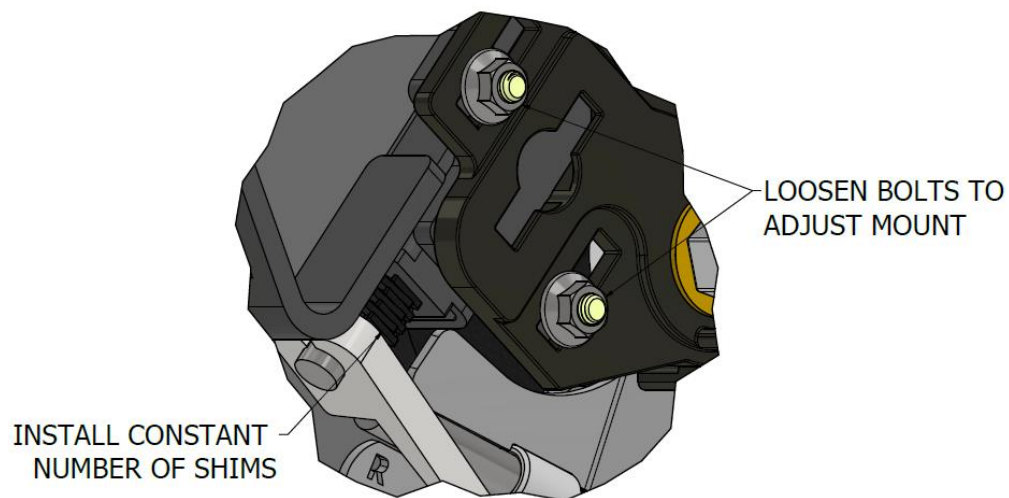

Figure 9: Adjust the scraper
- 6) To complete the adjustment of each scraper, loosen the bolts holding the mounting bracket to the row unit shown in Figure 9. Slide the mount up or down so that the bottom point on the scraper is  $\frac{1}{8}$ " from the disc bevel. If the discs are slightly worn, set each scraper to be the same distance from the edge of the disc. Retighten the bolts after the scraper is positioned properly.